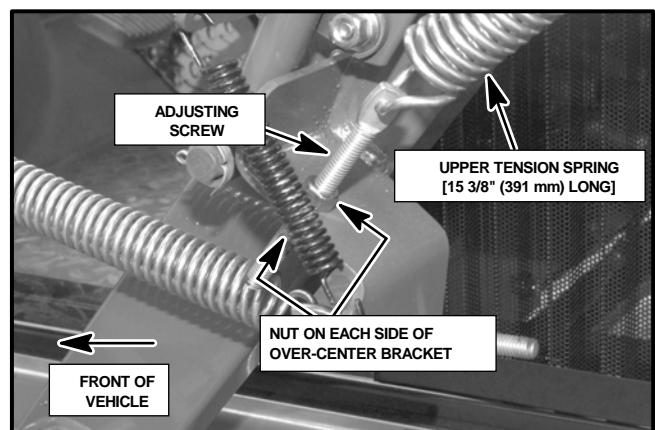

Figure 26
5. Connect the other end of the spring to the adjusting screw on the over-center bracket as shown in Figure 26. Remove the screw (Part No. 832438) and two (2) 3/8-16 nuts (Part No. 304632) from the Accessory Kit and install them to the over-center bracket. Make sure to keep one nut on each side of the bracket. The spring will be adjusted later.